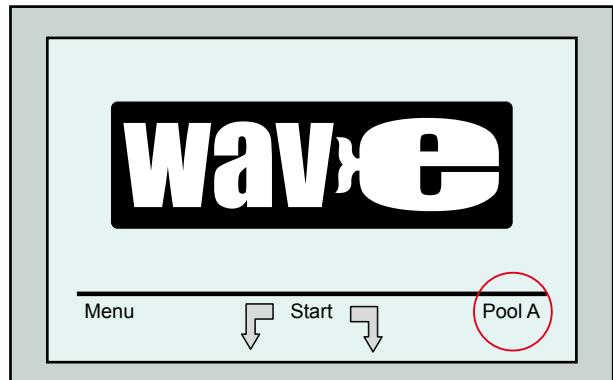

Figure 8: Wave screen showing Pool A as default setting
3. Switch on the power supply. The MMI's Wave screen (figure 8) opens in the home window.
1. Go to the Wave screen. "Pool A" is displayed as the currently defined setting as shown in Figure 8.
1. From the Wave screen, press the currently displayed pool setting at the right side of the screen (see Figure 8) to open the Pool Profile screen.